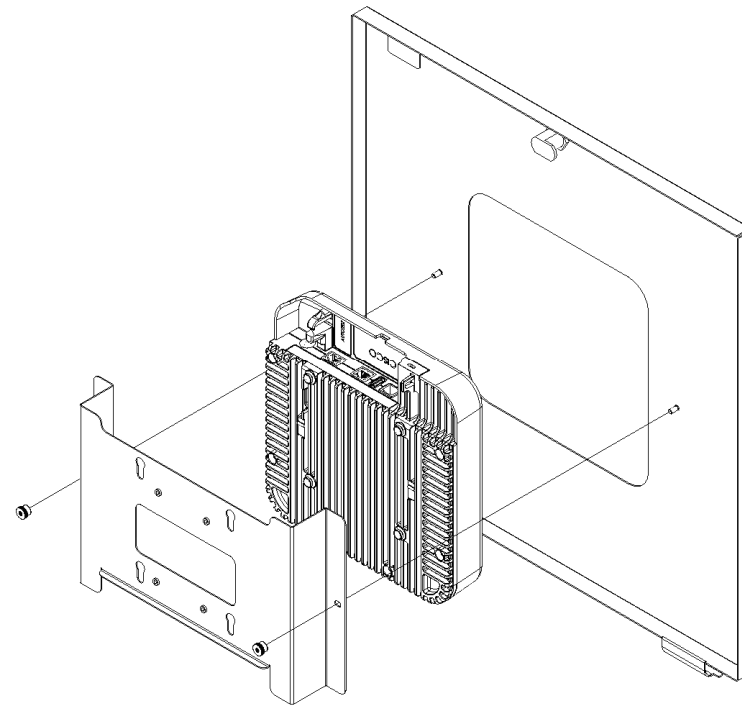

Figure 6
Step 6A – (For Cisco 3802i, 3802e, and 2802e) Attach the Cisco AP to the Oberon mounting plate by inserting the feet of the access point into the keyhole slots of the Oberon mounting plate and sliding the AP until it locks into place. The access point should be aligned so that the raised flange of the Oberon mounting plate is opposite the Ethernet port of the access point. (Ref. Figure 6).
Step 8 – The door assembly is completed by attaching the previously assembled mounting plate assembly to the enclosure door. Place the slotted holes in the mounting plate over the studs located on the bottom side of the door. Once the mounting plate is positioned, secure it in place by reinstalling the two (2) thumb nuts that were removed in Step 5 (Ref. Figure 6).
Step 5 – To install the Cisco AP, place the enclosure's door on a flat work surface. Remove the mounting plate from the door by removing the two (2) thumb nuts that attach the mounting plate to the door. Retain the nuts (Ref. Figure 6).